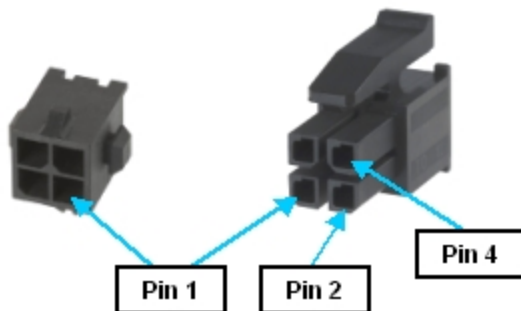

Figure 4-15: Four-pin AMP 3-794620-4 Connector and AMP 794617-4 Plug
This is a 4-pin AMP 3-794620-4 connector that: (1) outputs a signal that controls turning on and off an external motor power supply and (2) provides the 24VDC that powers the digital section of the controller. The mating plug is an AMP 794617-4. See Figure 4-15.